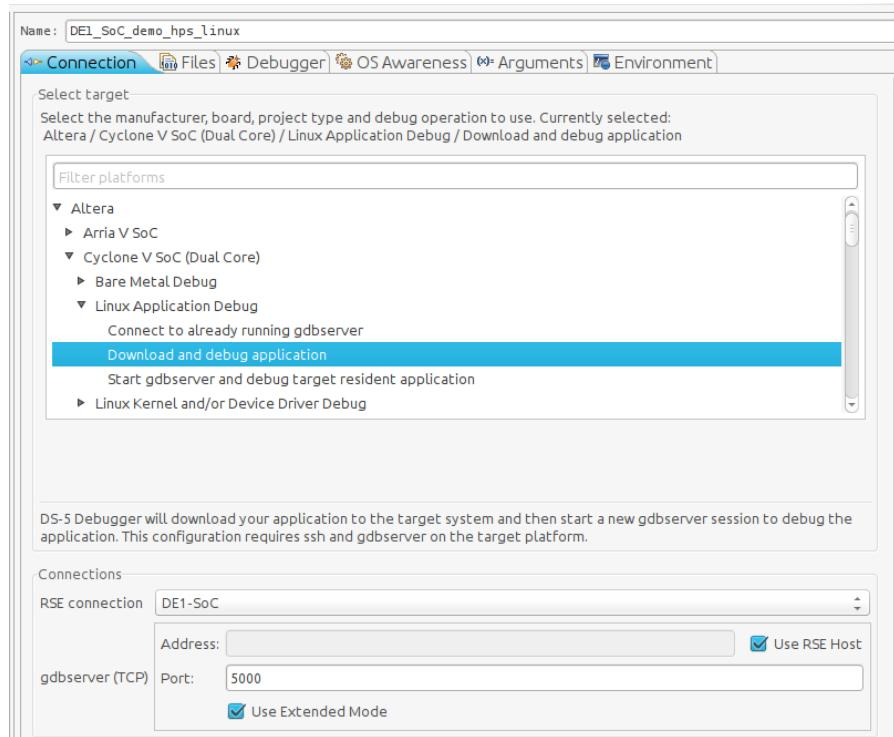

Figure 13-14. Debug Configuration "Connection" Tab
- b. Set the "RSE connection" to "DE1-SoC". This is the remote system connection we created earlier. You should have something similar to Figure 13-14.